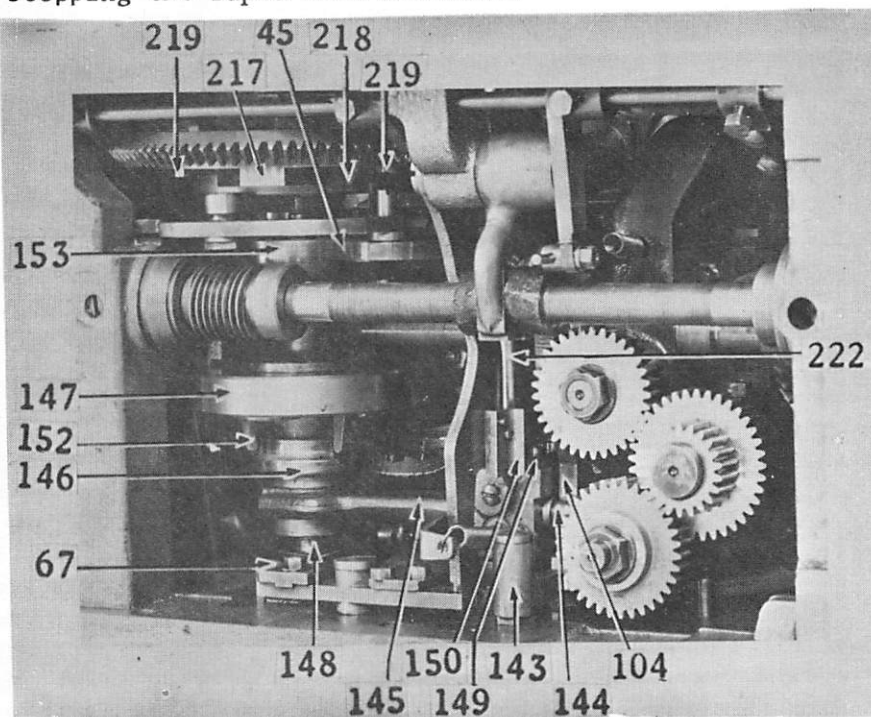

Fig. 26 Rapid Feed in Operation
rapid feed is actuated first by the action of the stud on the end of clamp closing lever (228, Fig. 8) riding up the incline of the rapid feed starting latch (224, Fig. 8)), causing it to rock the shaft (142, Fig. 11) which in turn trips the latch (143, Fig. 26) and allows the rapid feed starting pawl (104, Fig. 26) to engage the stud (144, Fig. 26). As the pawl engages the stud, it causes the fork (145, Fig. 26) to withdraw the sleeve (146, Fig. 26) from the clutch levers, thereby engaging the clutch disc (147, Fig. 26) which rotates the shaft (148, Fig. 26), causing the carrier to be moved to a sewing position. The rapid feed clutch is held in engagement by the fork extension plate (149, Fig. 26) as it drops into the notch in the rapid feed slide bar lock (150, Fig. 26). When the work clamps reach the sewing position, the rapid feed movement is suspended by the start segment (51, Fig. 12) pushing the stop lever (52, Fig. 13) back and starting the stitch movement and at the same time causing the lock trip extension lever (53, Fig. 12) to pull back the lock trip extension (151, Fig. 12) disengaging the rapid feed slide bar lock (150) from the fork extension plate (149) allowing the fork (145) to move the sleeve (146) into contact with the clutch levers (152, Fig. 26), thereby disengaging the clutch disc (147) and stopping the rapid feed movement.
At the completion of the stitching of the buttonhole, the rapid feed is actuated a second time by the downward action of the interlocking slide (58, Fig. 13) raising the end of the rapid feed starting lever (61, Fig. 13), causing it to rock the shaft (142, Fig. 11) which in turn trips the latch (143) and allows the rapid feed starting pawl (104) to engage the stud (144). As the pawl engages the stud, it causes the fork (145) to withdraw the sleeve (146) from the clutch levers, thereby engaging the clutch disc (147) which rotates the shaft (148) causing the carrier to be returned to a starting position. The rapid feed movement is finally suspended by the tripping point on the inner side of the pattern wheel coming into contact with the adjustable trip (67, Fig. 26) which rocks the rapid feed slide bar lock (150) out of contact with the fork extension plate (149). This allows the fork (145) to move the sleeve (146) into contact with the clutch levers, thereby disengaging the clutch disc (147) and stopping the rapid feed movement.